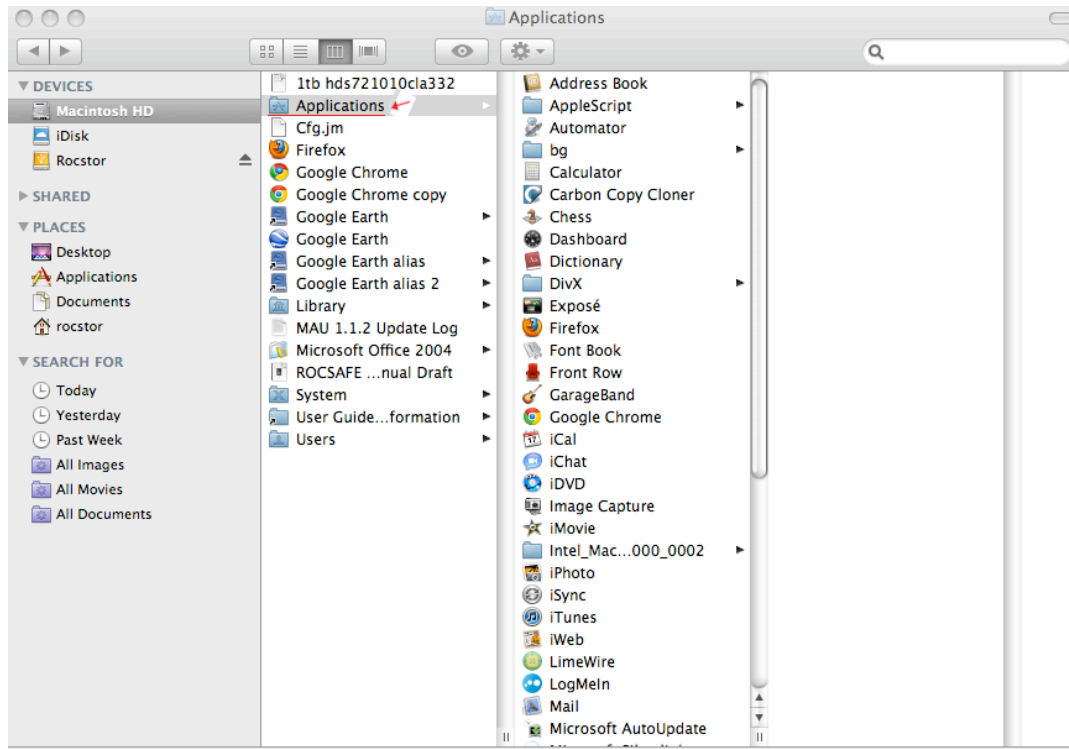

Figure 2.0
3. Once the icon appears on the “**Desktop**” click on the “**Macintosh HD**” icon (figure 2.0)